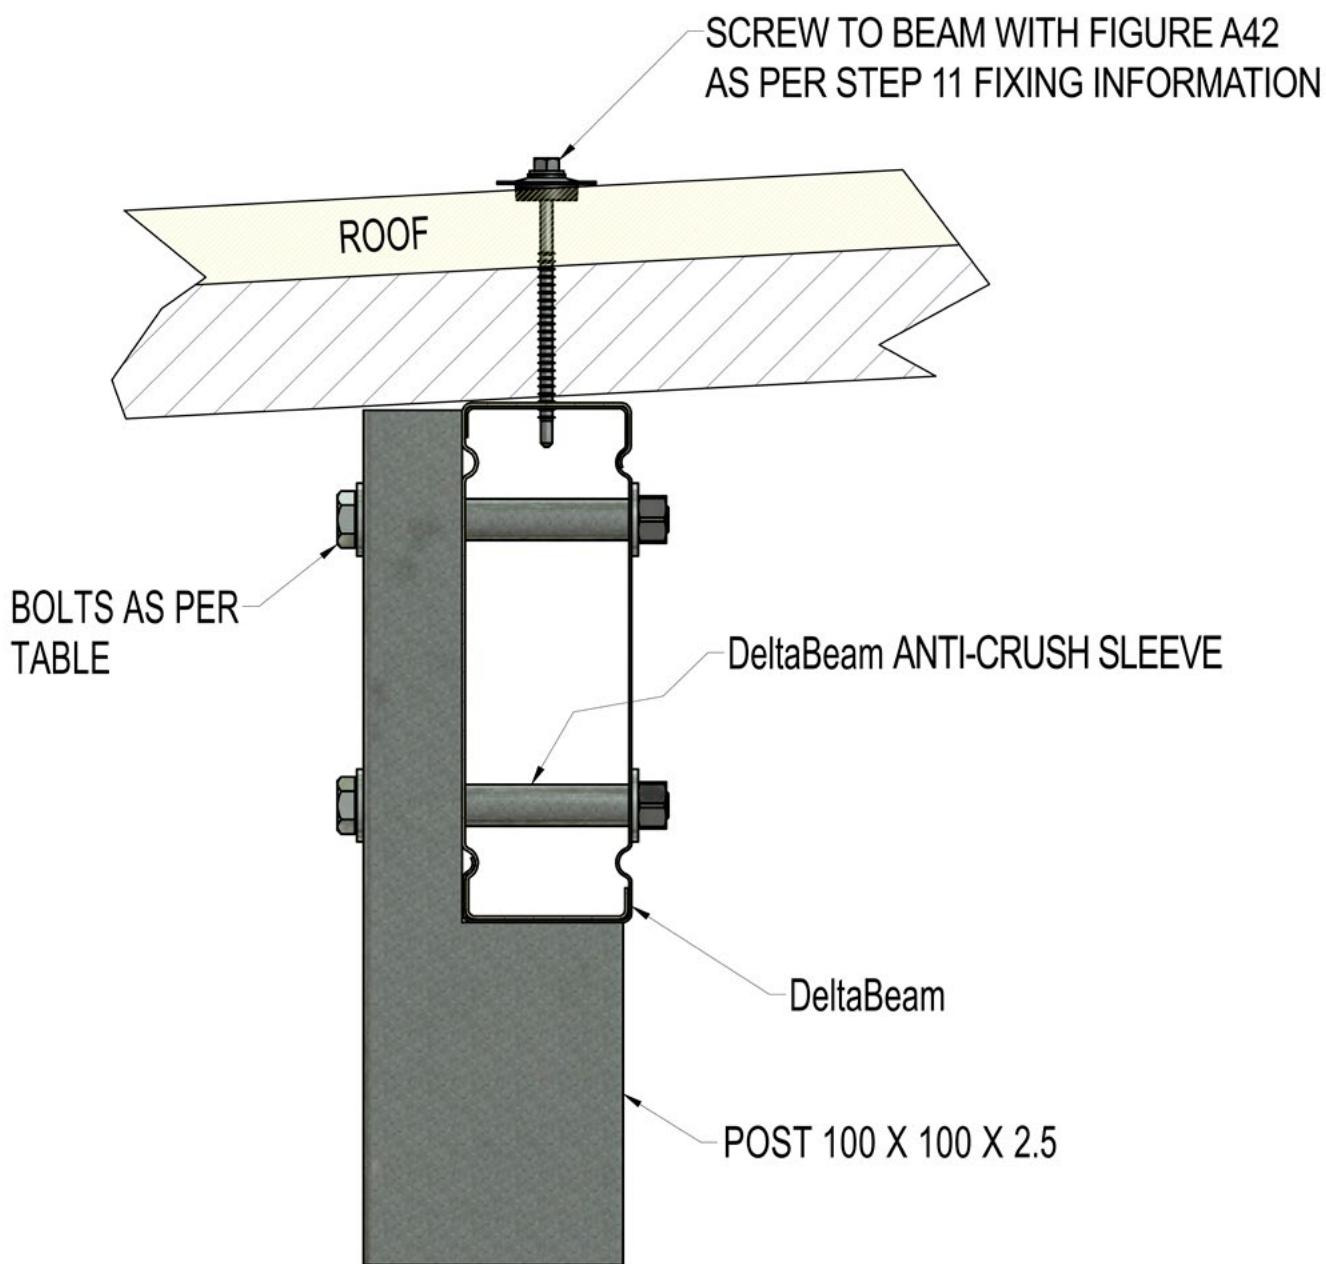

Figure A24
**Delta™ Steel or Aluminium Beam to Post (see Figure A24)**